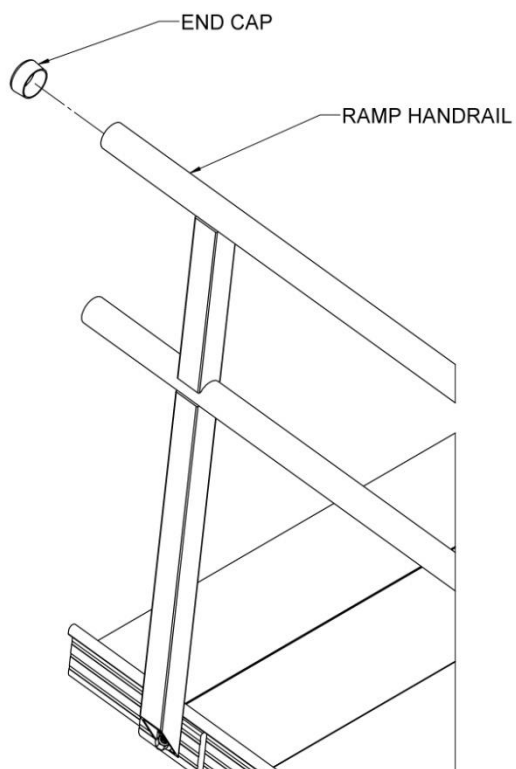

FIG. 4.10
- 4.5.1. Use plastic end caps when there are any remaining open ends on the handrails (FIG. 4.10). Push them on by hand or use a rubber mallet. If necessary, use construction adhesive to bond the cap to the ramp handrail.